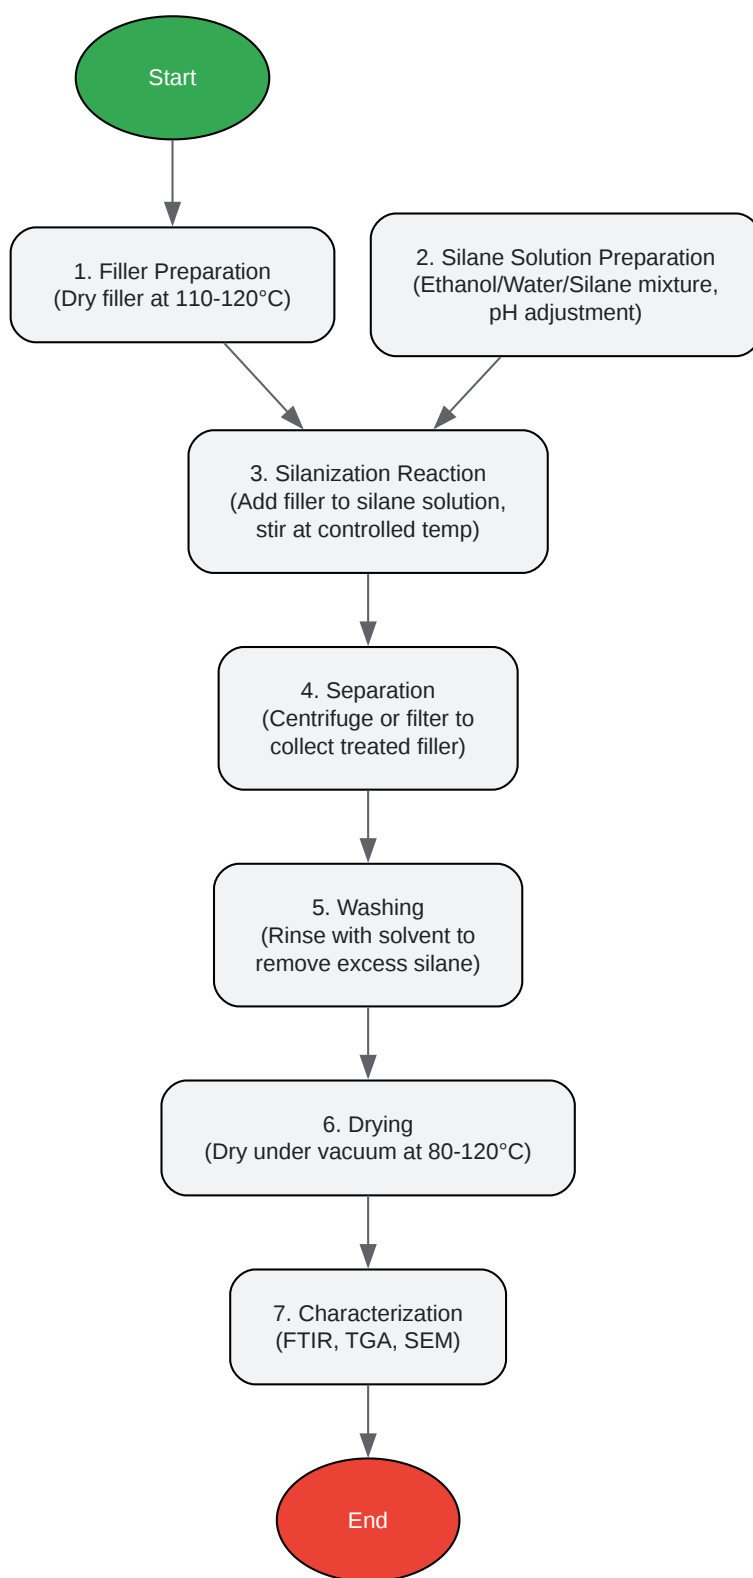

Figure 2: Experimental Workflow for Filler Surface Modification
- ResearchGate. (n.d.). Figure 2. FTIR spectra of (a) untreated silica, (b) 1% silane-treated....
- MDPI. (n.d.). Effect of Surface-Modified Mica in Hybrid Filler Systems on the Curing and Mechanical Behavior of Ethylene–Propylene–Diene Monomer (EPDM)/Butadiene Rubber (BR) Blend.